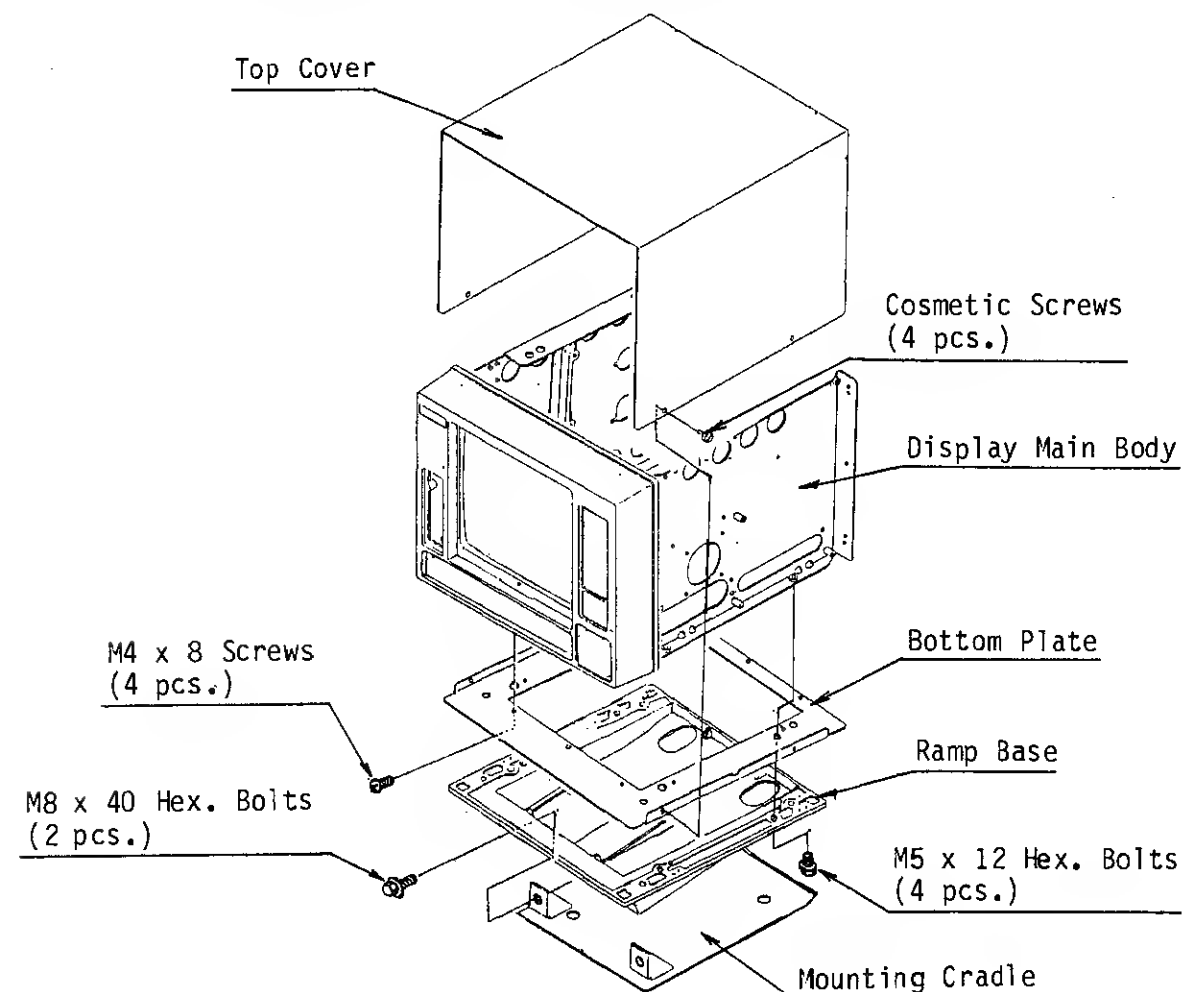

Fig.1-11
3. Remove the ramp base and bottom plate from the display main body by loosening the four M5 x 12 hex. bolts and the four M4 x 8 screws, respectively. See Fig.1-11.